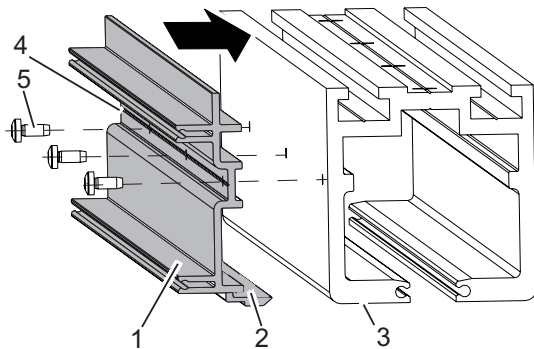

Fig. 42: Mounting the track cover
1. Place the plastic element (Fig. 42/1) to the track so that the surface (Fig. 42/2) rests on the lower edge (Fig. 10/3) of the track.
2. Place the drill inside the plastic groove (Fig. 42/4) and drill holes with \varnothing 4.6 mm through the track at a distance of 400 mm.
4. Fasten the plastic element with the enclosed self-threading M5 screws (Fig. 42/5). Tighten with TX25.
- ☞ Slightly turn the locking screws (Fig. 42/1) at the mounts using spanners (Fig. 42/2) so that the fixed panel can be more easily removed from the track.